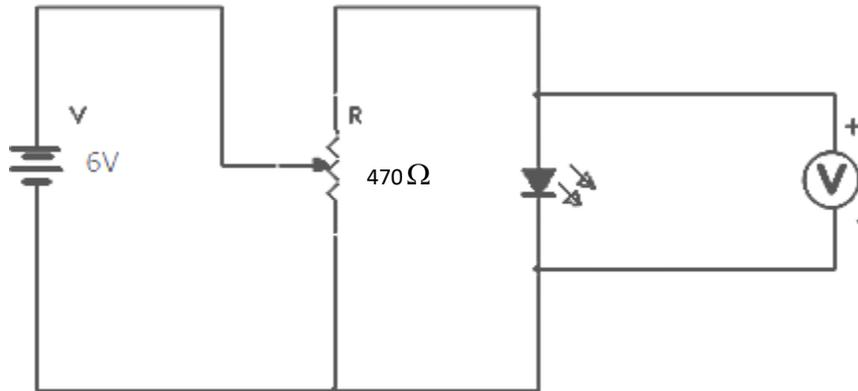

Figure 6.1
1. The connections are made as shown in fig 6.1. The voltmeter is connected across the red LED.
5. The energy (E) corresponding to turn on voltage (V_0) and hence the frequency (ν) of the radiation is calculated.